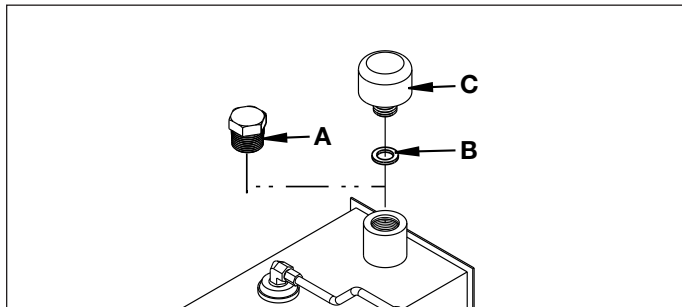

Figure 3, Filler Cap Installation
On new pumps, remove the reservoir shipping plug (A) and install strainer washer (B) and filler cap (C). See Figure 3.